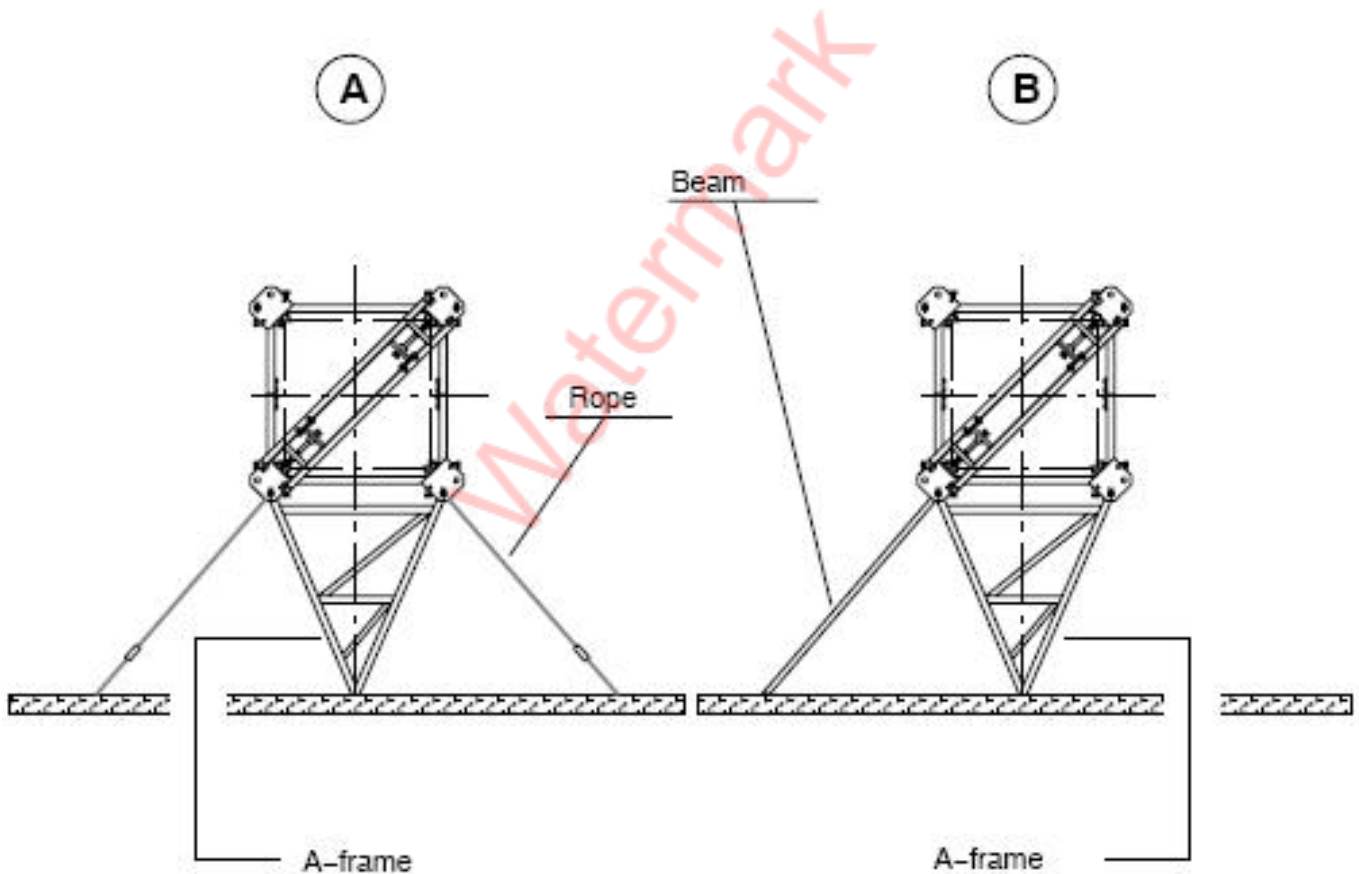

Figure 2
– The A-frame can be constructed of 2 profiles channel or 2 symmetrical angle irons or, which is better, of 2 tubes or 2 reinforced symmetrical angle irons, avoiding the cross-bracing. The ropes arranged on either side of the A-frame should make angles between 30° and 60° with the wall. The ideal solution is to have 2 symmetrical angles 45° (Detail A – Figure 2).
– The A-frame is the same as for the above solution. The beam which can be made of the same profiles as the A-frame, should be at the correct length in order to form an angle with the wall, which is neither too closed nor too open (Detail B – Figure 2).